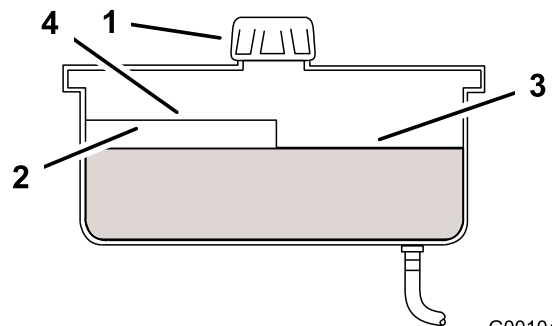

Figure 46
4. Clean area around the cap and filler neck of the hydraulic tank (Figure 46).
5. Remove the cap from filler neck and check the fluid level in the reservoir. (Figure 46).
Note: The fluid level should be to the top of the hot level of the baffle, when the fluid is warm (Figure 46).